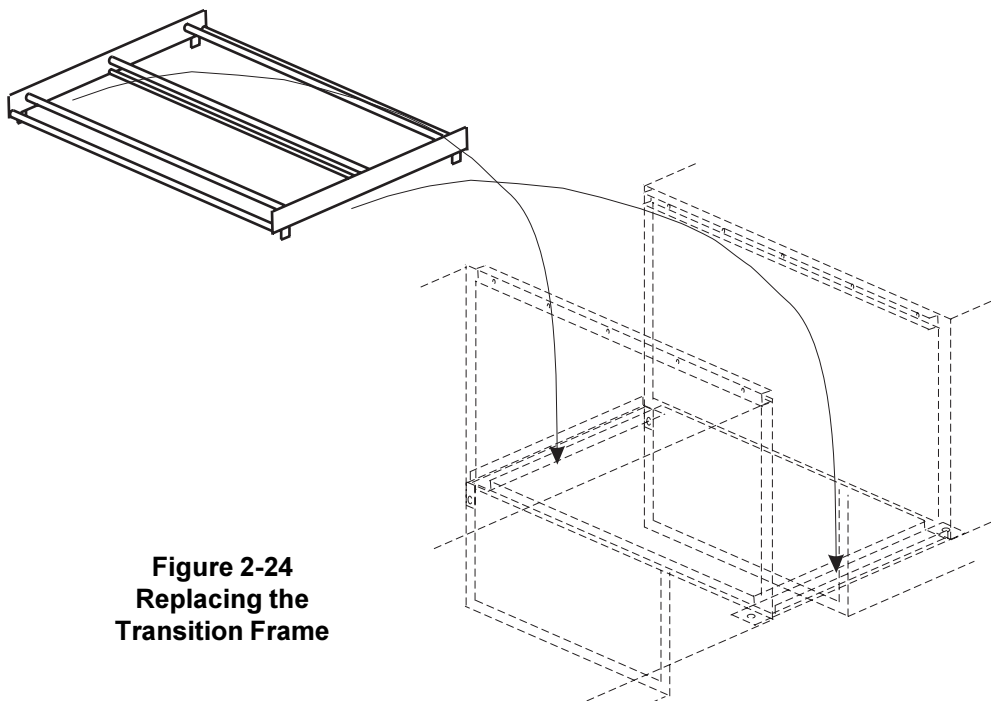

Figure 2-24
11. Replace the transition (center) conveyor section, as shown in Figure 2-24.